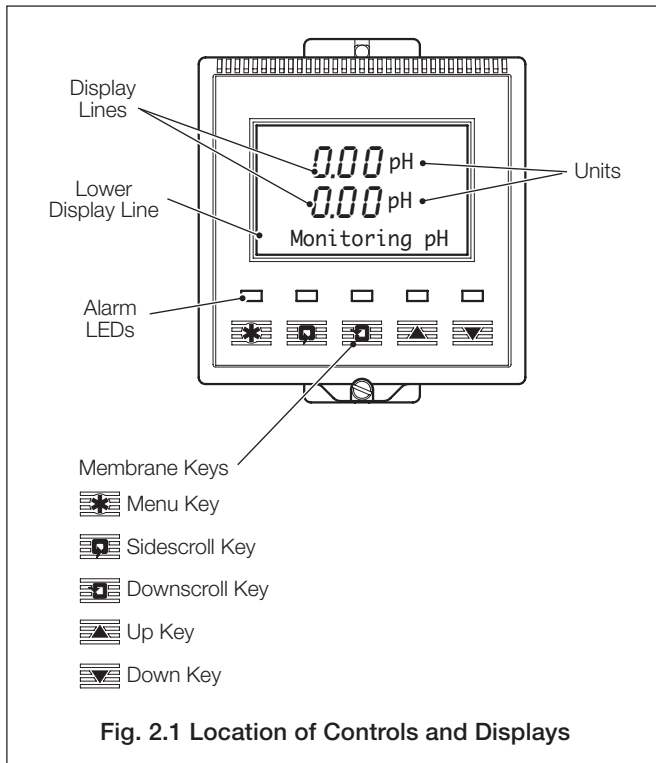

Fig. 2.1 Location of Controls and Displays
2.2 Displays and Controls – Fig. 2.1